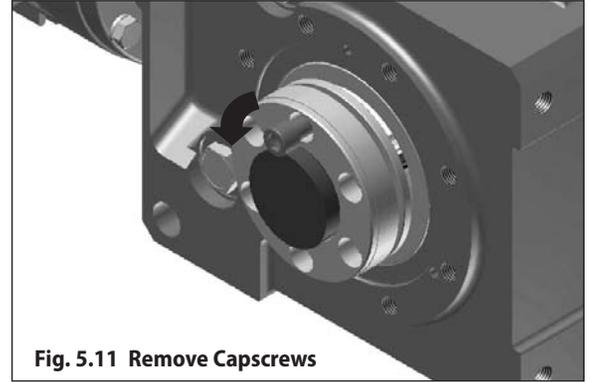

Fig. 5.11 Remove Capscrews
**Step 4** – After the liquid penetrant has been allowed to settle, remove the capscrews one at a time (see Fig 5.11).